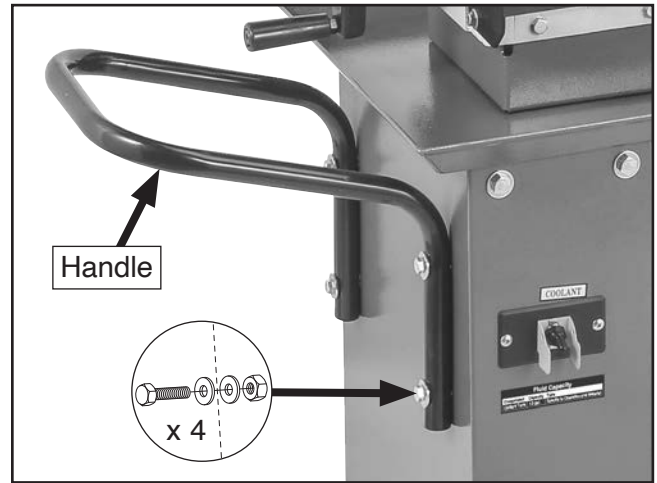

Figure 20. Handle attached to machine base.
3. Attach handle to machine base with (4) $\frac{5}{16}$ "-18 x $1\frac{1}{2}$ " hex bolts, (8) $\frac{5}{16}$ " flat washers, and (4) $\frac{5}{16}$ "-18 hex nuts (see **Figure 20**).